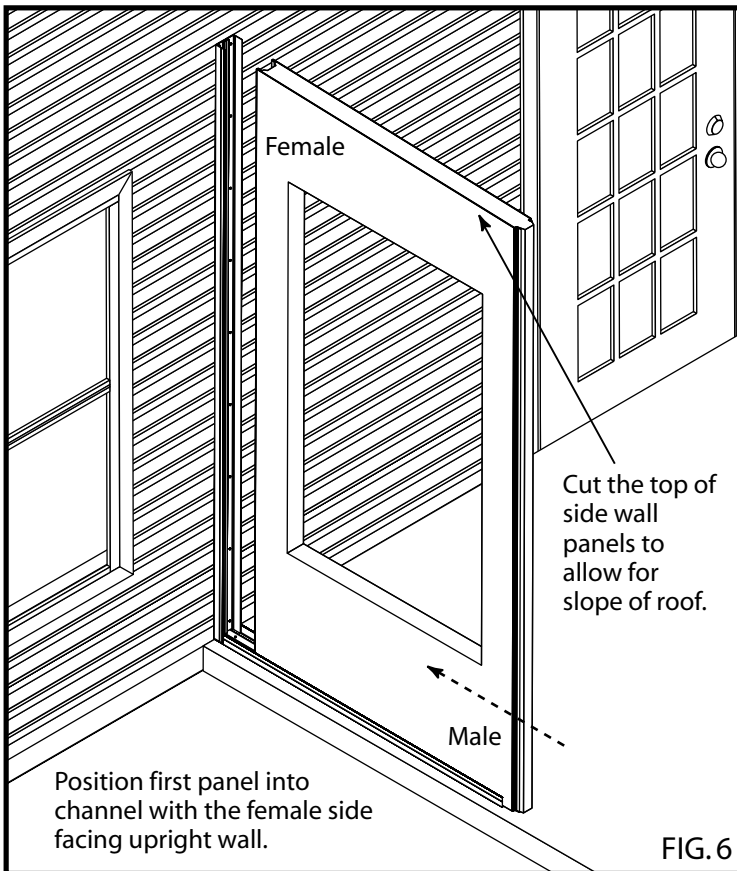

FIG. 6
- [6]** Place the first panel for side walls into position with the female side facing the upright wall. **[FIG 6]** Slide into upright channel and check for squareness.